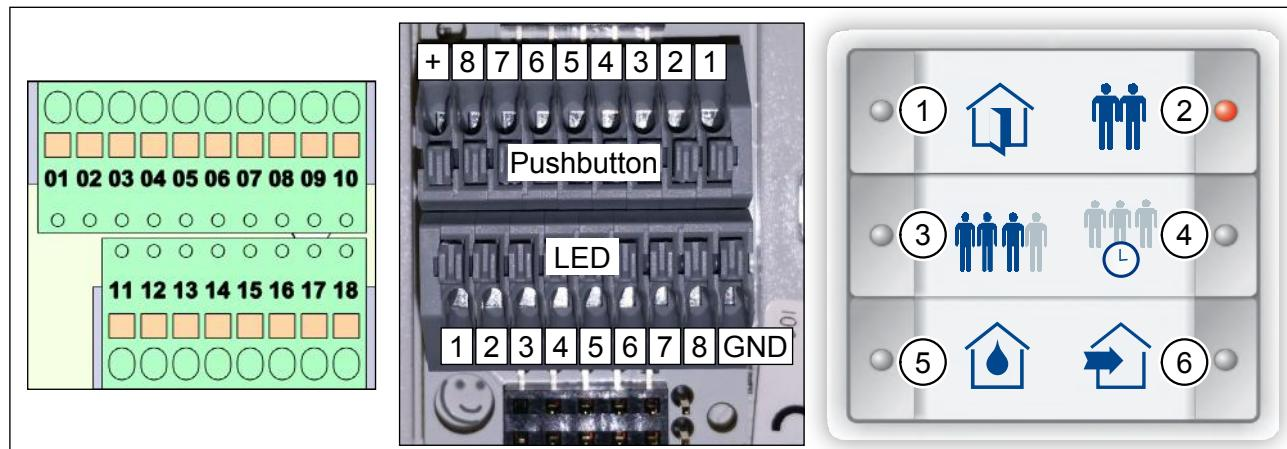

Fig. 6: Terminal blocks on M-WRG-S/Z-T-F, terminal blocks on InControl pushbutton sensor, M-WRG-S/Z-T-F insert sheet
- After wiring, place the insert sheet (Fig. 6) in the InControl pushbutton sensor.